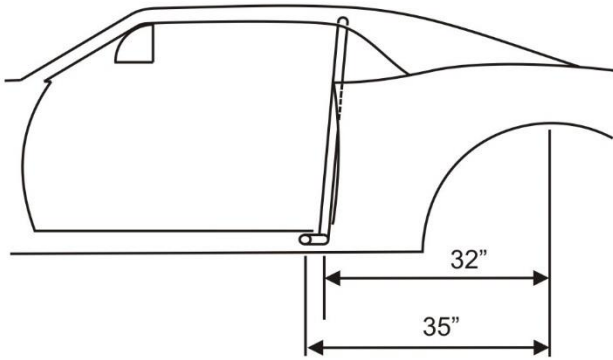

**Figure 1**
1. Print out the Driver and Passenger quadrant sheets. Cut each along the lines as marked. Starting on the driver side, take the quadrant marked as driver and hold up against the roof. See Figure 1 on the XTR worksheet. Leave about  $\frac{1}{2}$ " on the side from the B pillar area. This should be 32 inches forward of the axle centerline. Mark a line where the zero line is. For reference also see Figure 2 on the XTR Work Sheet.
2. Using the quadrant marked as Passenger, repeat the process listed in step one. The distance between these two lines is now your "A" dimension on the Eliminator XTR Spec Sheet. (See Figure 1)
3. Now measure the width of the car between the rockers 35 inches forward of the axle centerline. (See Figure 1 and Figure 2) This is your "B" dimension on the XTR Spec Sheet.
6. Dimension "D" is the trickiest. Using the Driver side quadrant, place it on the "A" mark made earlier in step #1. Holding in place use a tape measure to find the length from the door sill to the "inch" mark on the Quadrant. (See Figure 1 & Detail A on the XTR Work Sheet). **Example**, if the measured length is 11" and the tape lines up with the 7" mark on the quadrant then your "D" dimension is 18". This is your "D" dimension on the XTR Spec Sheet.